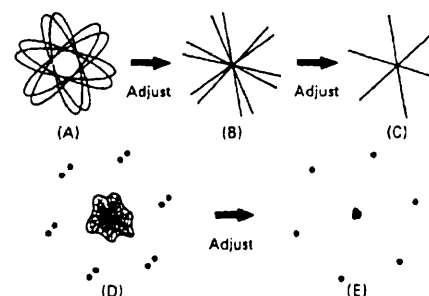

Fig 15.
- 7: Adjust R351 (PAL DL Gain) to obtain waveform (B) below (fig. 15).
- 8: Repeat the above steps if necessary to obtain waveform (C).
- 9: Repeat the above steps roughly once or twice as required to obtain waveform (C).
- 11: Adjust T301 (Burst Clean) to obtain waveform (E).